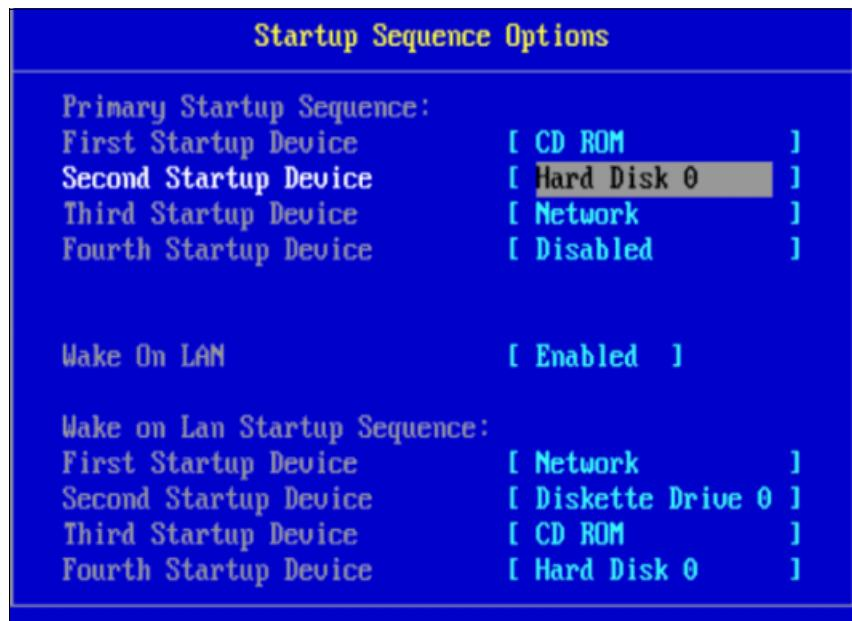

Figure 18-36 Selecting Hard Disk 0 in Startup Sequence Options panel
5. Scroll up to Startup Sequence Options and press Enter. Make sure that the Startup Sequence Option is configured as shown in Figure 18-36.